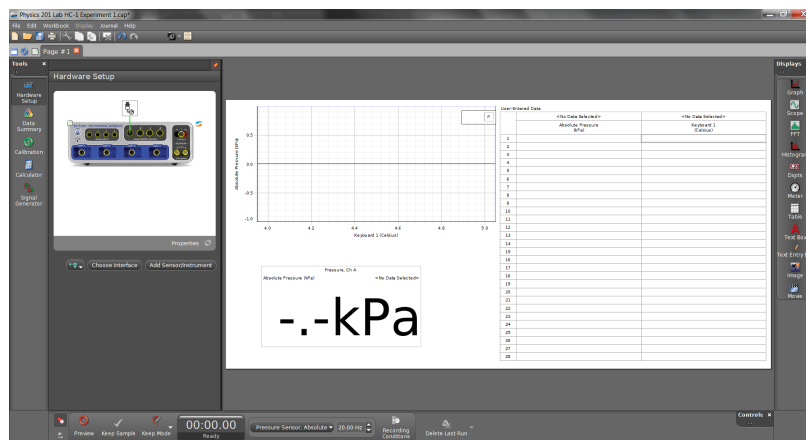

Figure 1: Image of PASCO Capstone display.
2. The computer screen should look like Fig. 1. In this window there is a graph configured to display pressure vs. volume, a table for these values, and a panel meter for the instantaneous pressure reading.